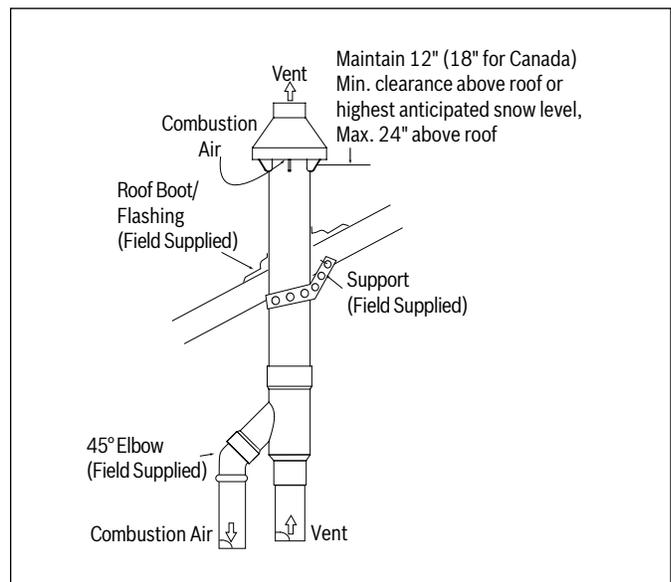

Figure 35
3. Partially assemble the concentric vent termination kit as shown in Figure 35 and Table 15 and Table 16. Cement Y concentric vent fitting to larger diameter kit pipe. Cement rain cap to smaller diameter kit pipe. See Table 15 and Table 16.
4. Install cemented Y concentric fitting and pipe assembly through structure's hole and field supplied roof boot/ flashing. See Figure 35.
Make sure the termination height is above the roof surface or anticipated snow level (12 inches in U.S.A. or 18 inches in Canada). If the assembly is too short to meet the height requirement, the 2 pipes supplied in the kit may be replaced by using the same diameter, field supplied SDR-26 PVC (D2241) pipe. Do not expand dimension "D" more than 60 inches. See Figure 35.